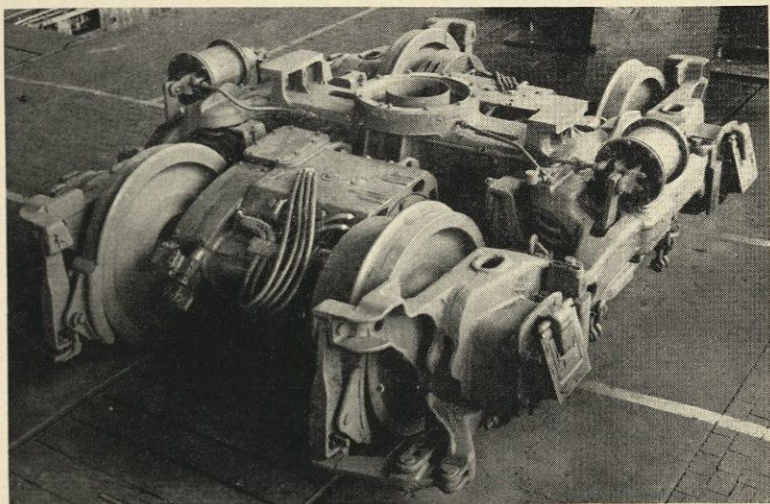
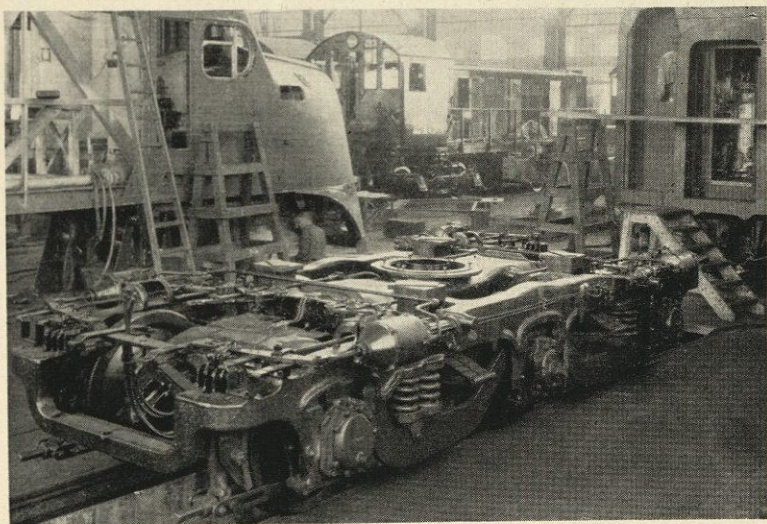

Fig. 8
Fig. 9
9. The traction motors are mounted on the trucks. (Figs. 8 and 9.) The motors are connected with the driving axles by gears. The trucks may have either four or six wheels. Only two of the three axles of a six-wheel
18. Figure 8 illustrates a four-wheel driving truck for a Diesel electric locomotive. Fig. 9 illustrates a six-